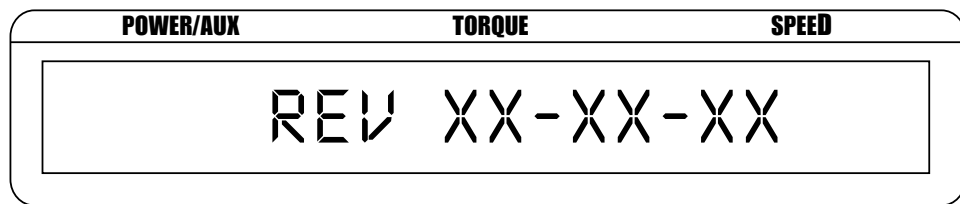

Figure 6-1 Software Revision Date Display
- 2.) Press and hold the LEFT ◀ and RIGHT ▶ buttons simultaneously while turning the instrument power ON. The software revision date appears on the display as shown in *Figure 6-1*.